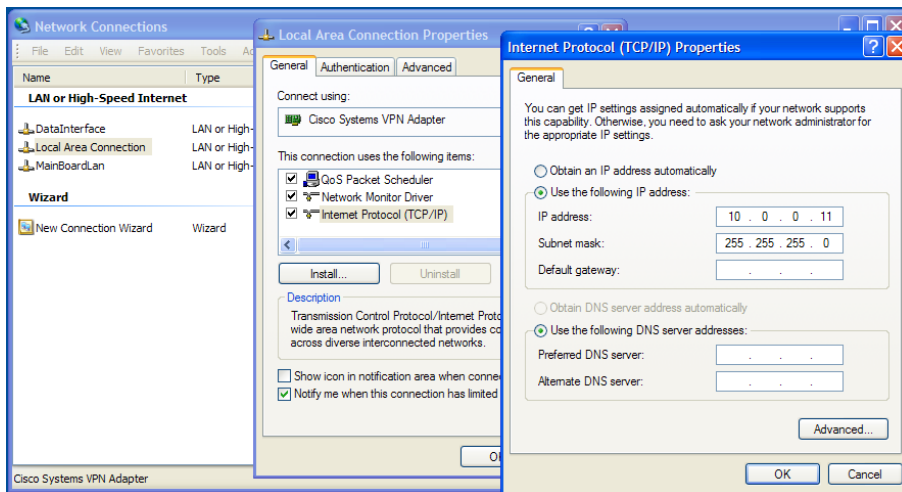

Figure 8.2 Setting static IP address 10.0.0.11 in Windows XP
1. Connect an Ethernet cable directly between the PC and the Ethernet control port of the TVG420. Configure the PC to be on the same sub net as the TVG420. See Figure 8.2.
The screen-shot in Figure 8.2 shows how to configure the network interface in Windows XP to communicate with the TVG420 with factory default settings. The IP address/netmask